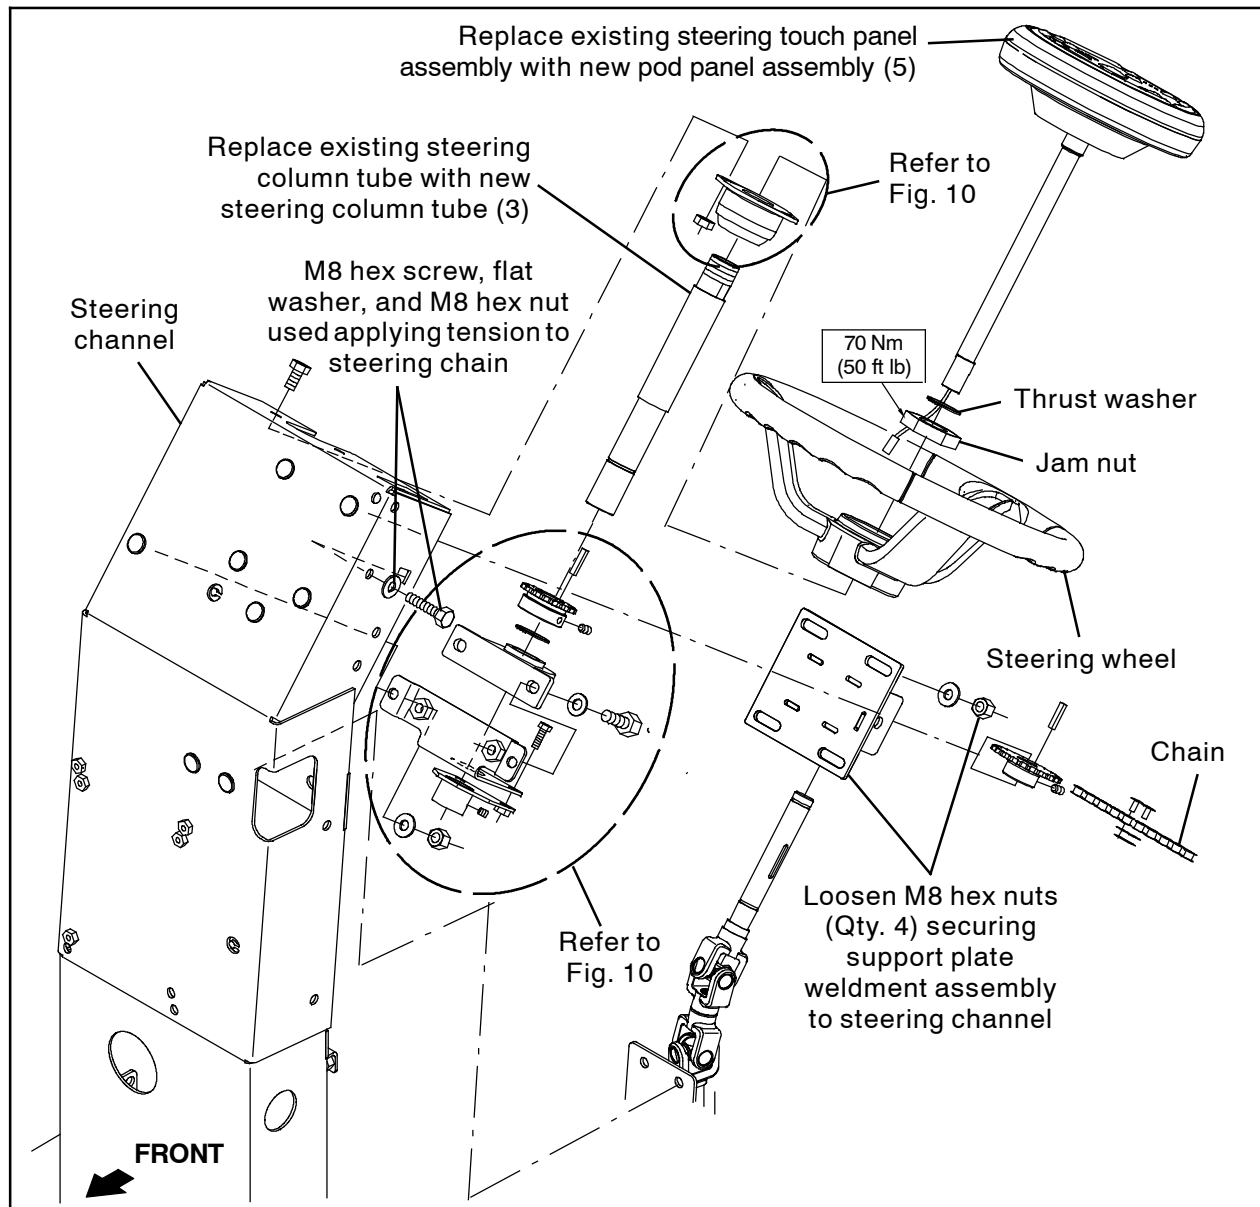
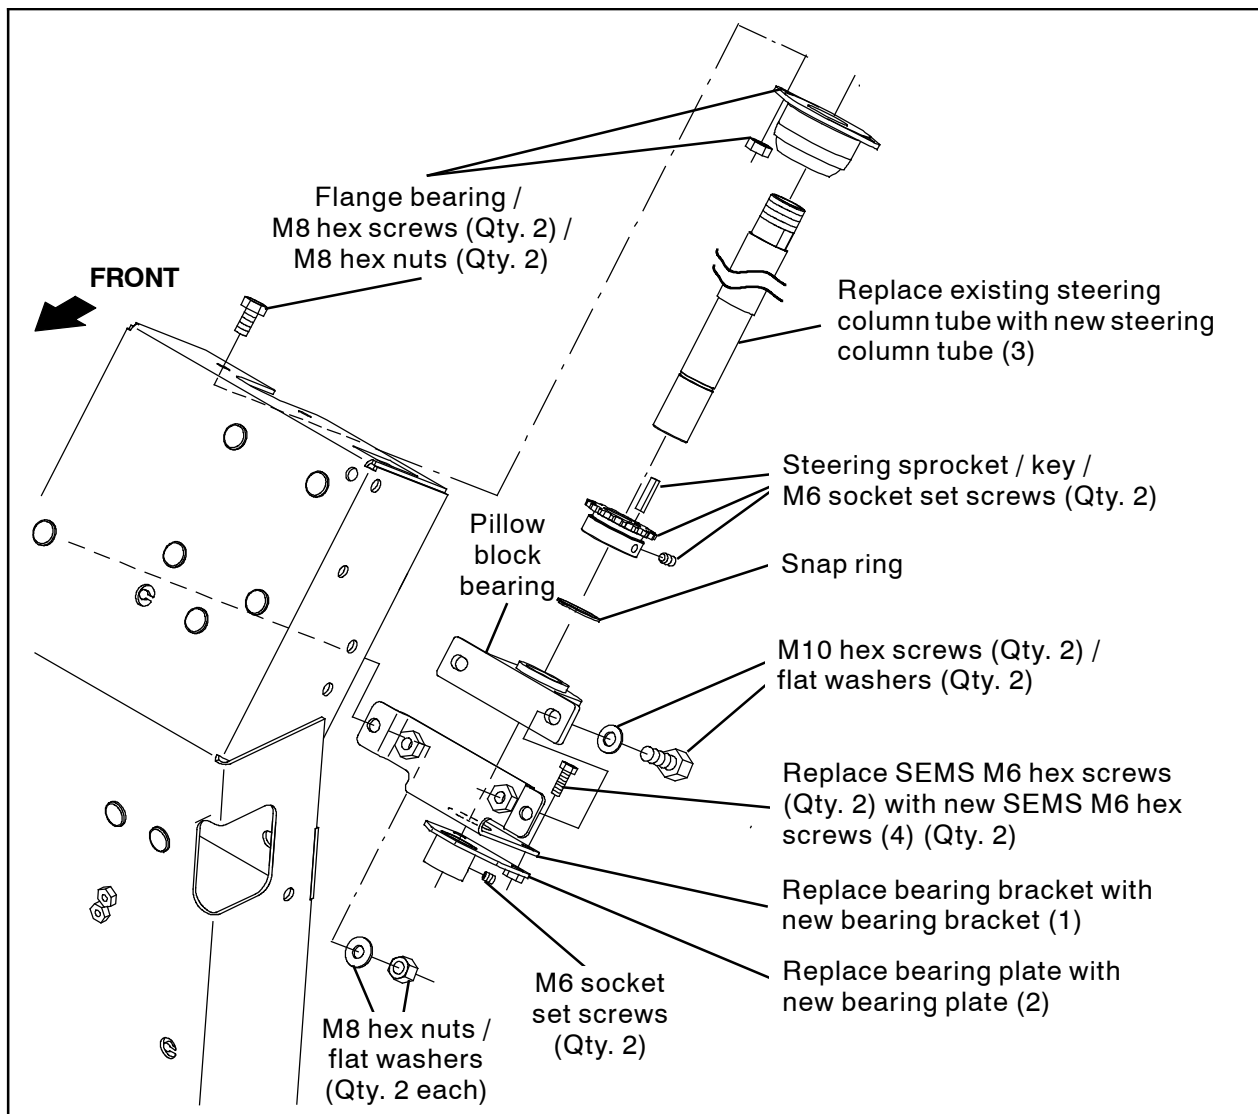
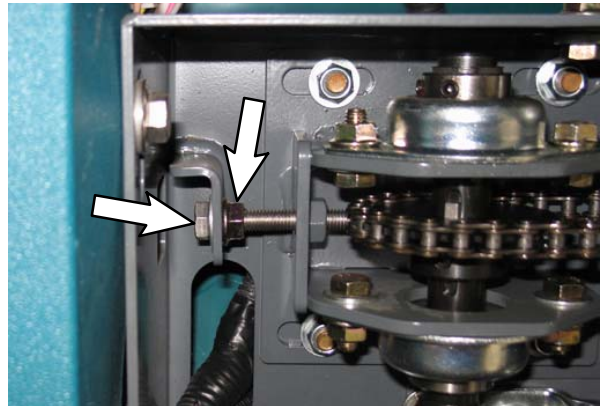
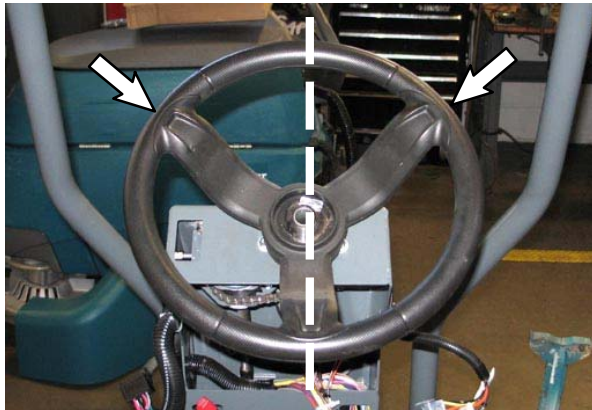

FIG. 2
FIG. 10
FIG. 12
FIG. 16
9. Remove the M8 hex screws and M8 hex nuts securing the flange bearing to the steering channel. Set the M8 hex screws and M8 hex nuts aside. (Fig. 10)
10. Remove the hardware securing the bearing bracket to the steering channel. Set the M8 hex nuts and flat washers aside. (Fig. 10)
11. Remove the steering column tube from the steering channel. (Fig. 10)
12. Remove the flange bearing from the steering column tube. (Fig. 10)
13. Remove the steering sprocket from the steering column tube. Set the steering sprocket, key, both M6 socket set screws, and the snap rings aside. (Fig. 10)
14. Remove the pillow block bearing / bearing bracket / support plate from the steering column tube. Discard the steering column tube. (Fig. 10)
15. Remove the pillow block bearing from the support bracket. Set the pillow block bearing and both M10 hex screws and flat washers aside. (Fig. 10)
16. Remove the M6 socket set screws from the bearing plate. Set the M6 socket set screws aside. Discard the support bracket / bearing plate assembly. (Fig. 10)
17. Install the new bearing bracket (1) onto the steering channel. (Fig. 10)
18. Slide the steering sprocket / key onto the new steering column tube (3) and align one of the socket set screws in the steering sprocket over the key. (Fig. 10)
19. Tighten the socket set screws enough to hold the steering sprocket / key into place on the steering column tube (3). (Fig. 10)
20. Install the snap rings onto the steering column tube (3). (Fig. 10)
21. Install the pillow block bearing and flange bearing onto the steering column tube (3). (Fig. 10)
22. Position the steering column tube (3) into the steering channel and use two M10 hex screws and two flat washers to install the pillow block bearing onto the bearing bracket (1). (Fig. 10)
23. Reinstall the flange bearing onto the steering channel. (Fig. 10)
25. Position one of the set screws in the steering sprocket on the steering column tube (3) over the key and align the steering sprocket with the other sprocket installed on the support plate weldment. (Fig. 10)
26. Hold a straight edge across both steering sprockets and tighten the socket set screws in the steering sprocket on the steering column tube (3). Tighten the socket set screw over the key first. Torque to 7.5- 9.8 Nm / 66.4- 86.7 in lbs. (Fig. 10)
27. Reinstall the steering tension hardware and use hardware to tighten the steering chain tension. Tighten the lock nut against channel when through tightening the chain tension. (Fig. 12 / Fig. 10)
31. Install the steering wheel onto the steering column tube (3) and align the steering wheel. **DO NOT INSTALL THE JAM NUT ONTO THE STEERING WHEEL / STEERING COLUMN.** (Fig. 16)
37. Reinstall the jam nut to secure the steering wheel to the steering column tube (3). Torque the jam nut to 68 Nm (50 ft / lbs). (Fig. 16 / Fig. 2)
38. Install the thrust washer onto the steering column tube (3) / steering wheel. (Fig. 16 / Fig. 2)
39. Insert the pod panel assembly (5) into the steering column tube (3). Position the pod panel assembly so controls are oriented properly for operation.
40. Install the saved M6 socket set screws into the new bearing plate (2). (Fig. 10)
41. Use two SEMS M6 hex screws (4) to install the bearing plate (2) onto the bearing bracket (1). (Fig. 10)
42. Tighten the M6 socket set screws in bearing plate (2) to secure the pod panel assembly (5) in the steering column tube (3). (Fig. 2)
43. Connect the main wire harness to the pod panel assembly (5) harness.
46. Start and test the machine. Operate the controls on the pod panel assembly (5) to ensure all the controls operate properly. Drive the machine and turn the machine in both directions. Ensure the steering functions correctly without any binding or excessive noise when it is turned in either direction.